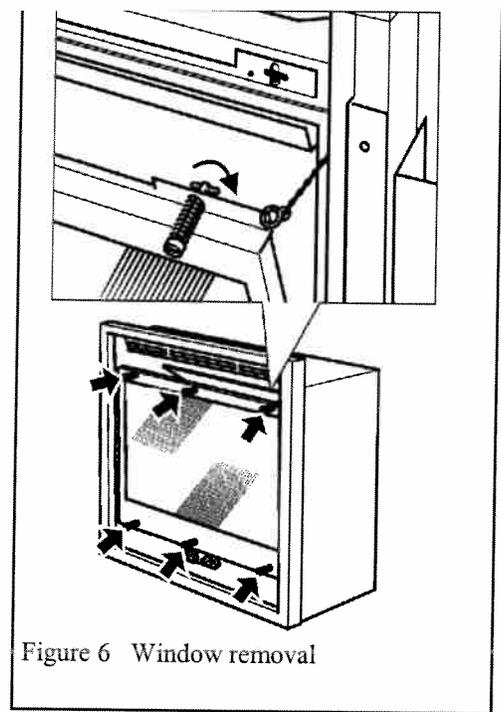

Figure 6 Window removal
- Remove the Window (see fig 6)